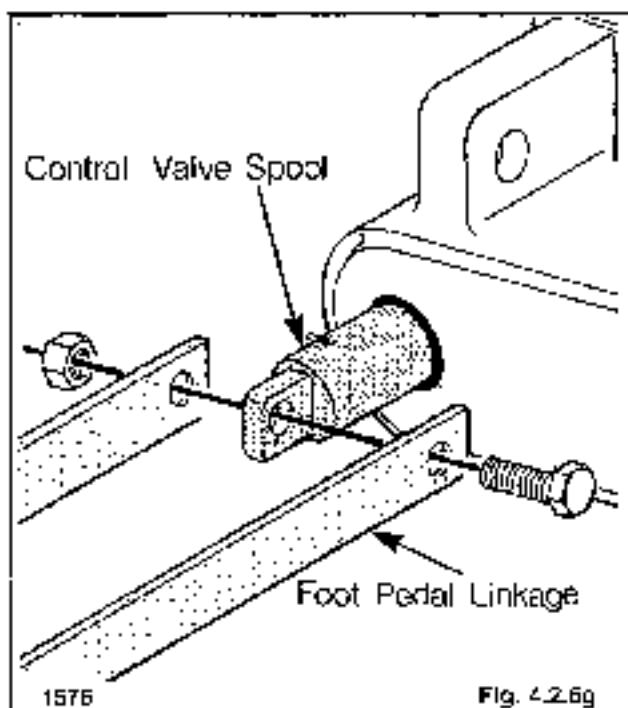

Fig. 4.2.6g
- 5 Install the foot pedal linkage between the control valve and foot pedals (fig. 4.2.6g).